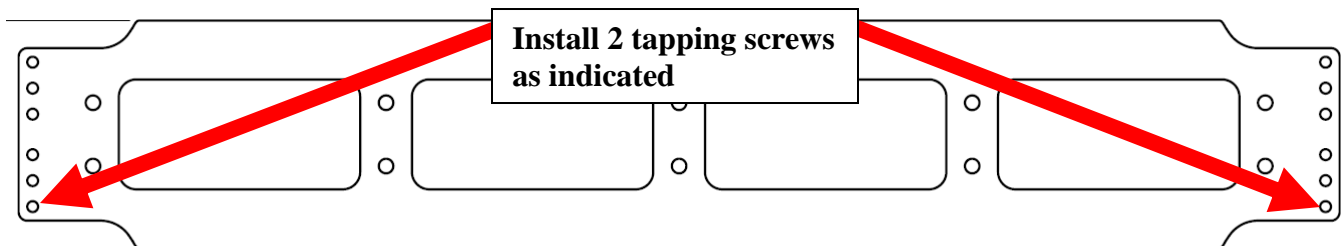

Figure 3: Hose bracket, install tapping screws
- a) Reinstall hose/power cable clamps P/N: (393344) x3, refer to figure 3.